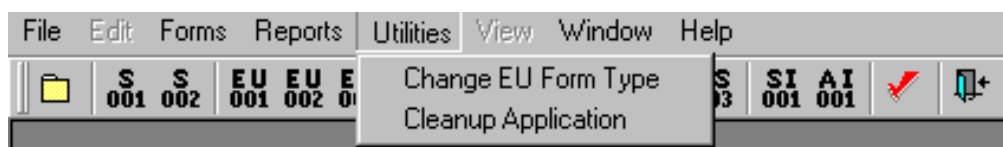

Figure 6-8: Utilities Menu
2. Choose **Utilities** on the menu bar and select **Change EU Form Type** (Figure 6-8). A window will appear which displays all emission units that are in your application and the EU form on which they appear (Figure 6-9).